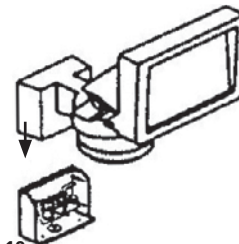
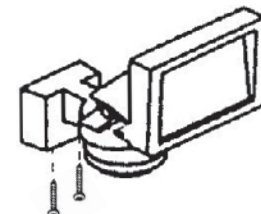

Fig. 13
Fig. 14
- g. Insert the sensor light onto the backplate (See Fig. 13). Then fix with the two small c/sk head screws supplied. (See Fig. 14).**